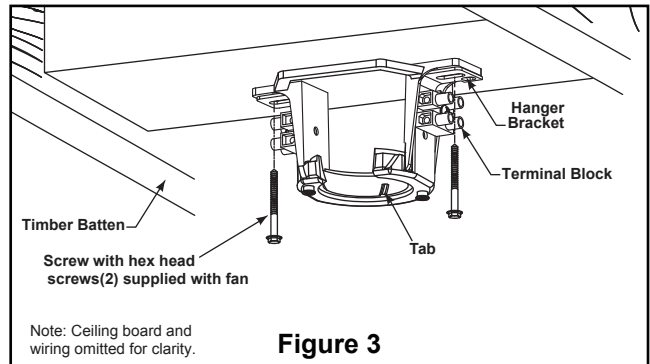

Figure 3
1. Drill a hole in the ceiling board and batten for wiring. Securely attach the hanger bracket to a timber batten or other structural support using appropriate fasteners. (Figure 3).